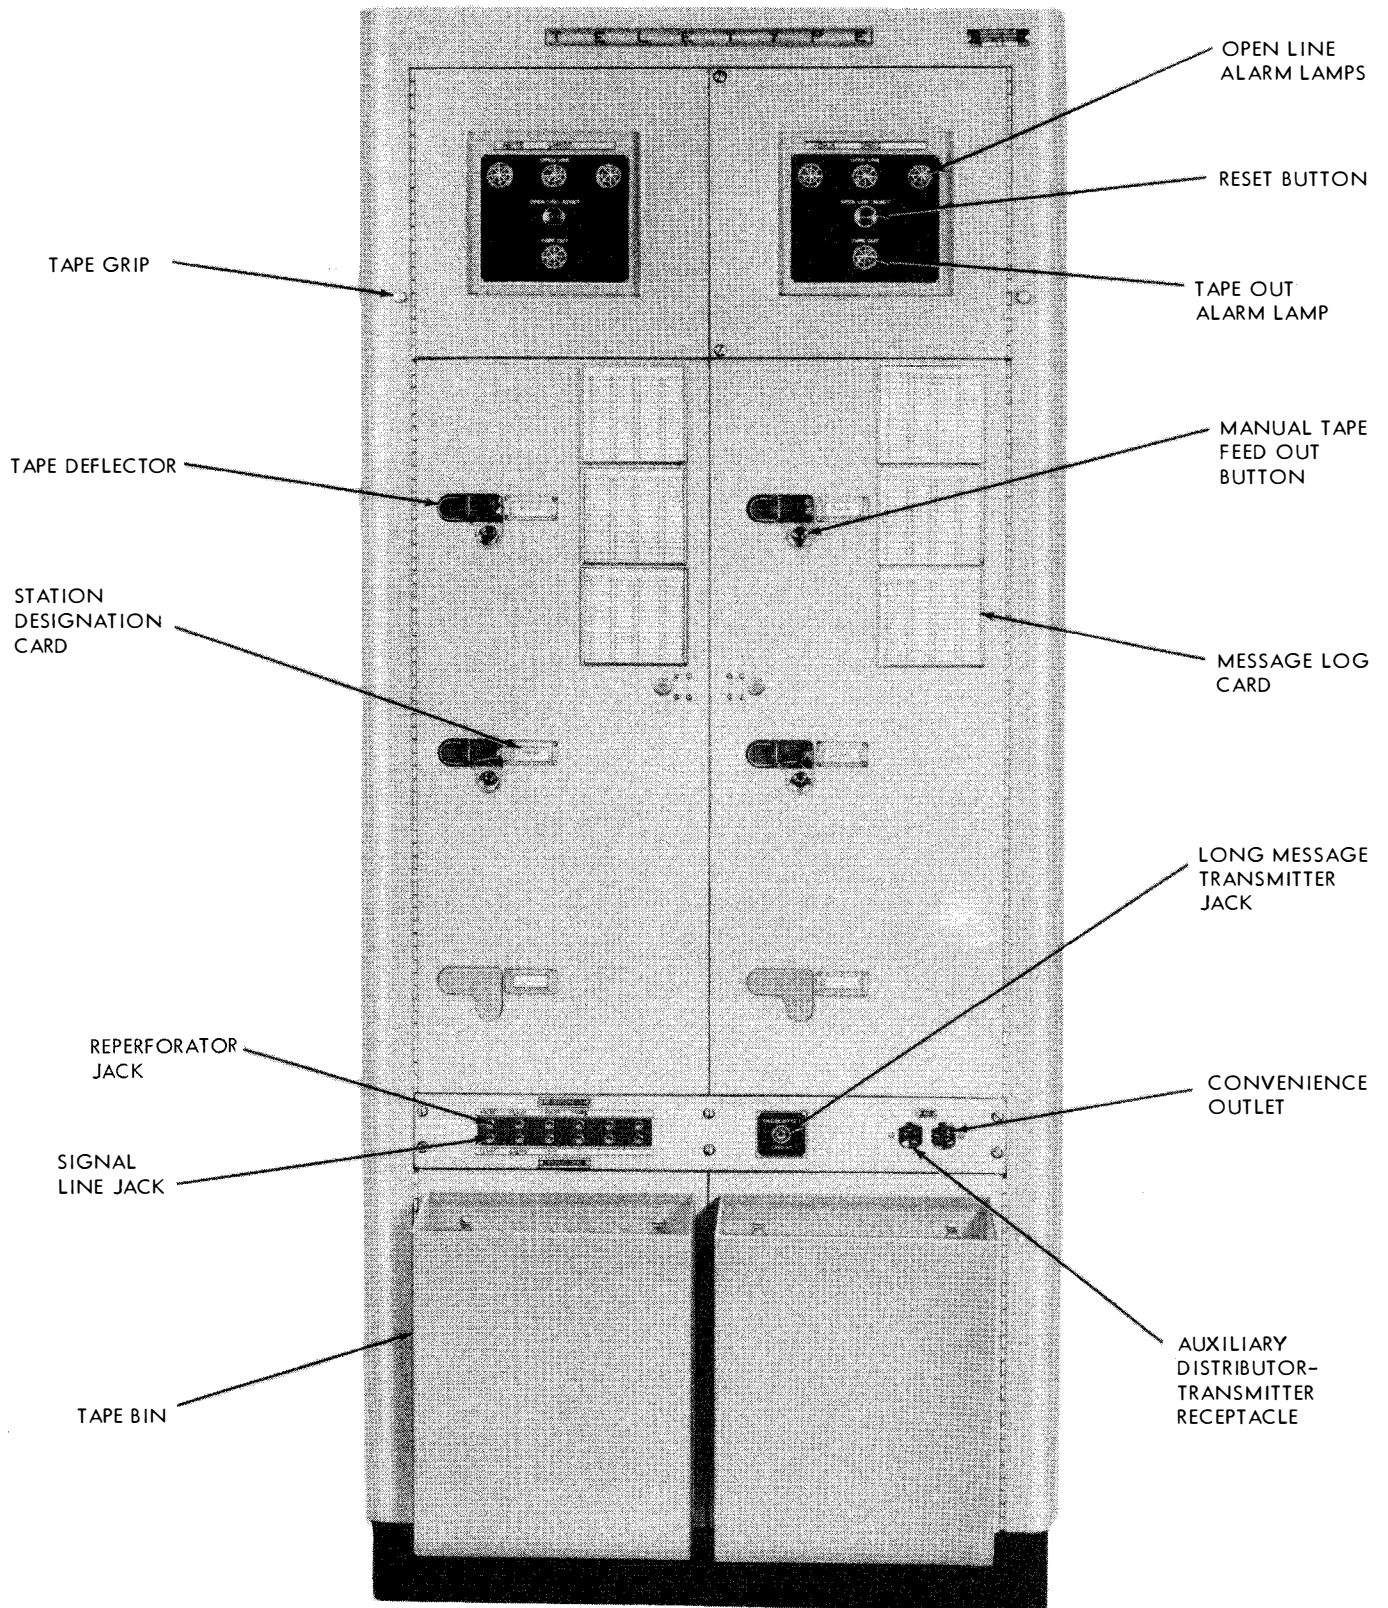

Figure 4-1. Receiver Group OA-616/FGC-38, OA-619/FGC-38X, or OA-622/FGC-39, Front View
b. RECEIVER GROUP OA-616/FGC-38, OA-619/FGC-38X, OR OA-622/FGC-39.—The receiver group is composed, basically, of three reperforators, each of which is associated with a separate incoming signal line. (See figure 4-1.) A fourth reperforator is also included which is used as a spare. An incoming message, in the form of automatic telegraph signals, is applied to a reperforator. The reperforator records the message on a tape in two ways; first, by perforating, and second, by typing the message on the tape. The received message is then fed out of the reperforator through a slot in the front of the receiver cabinet. The entire receiving operation is fully automatic.